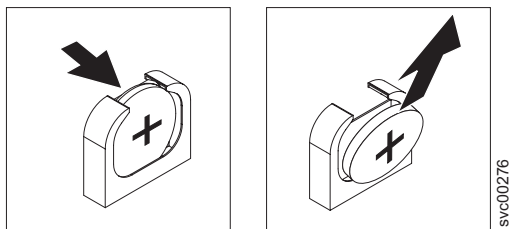

Figure 134. SAN Volume Controller 2145-CF8 CMOS battery holder
8. Remove the CMOS battery, as shown in Figure 134: